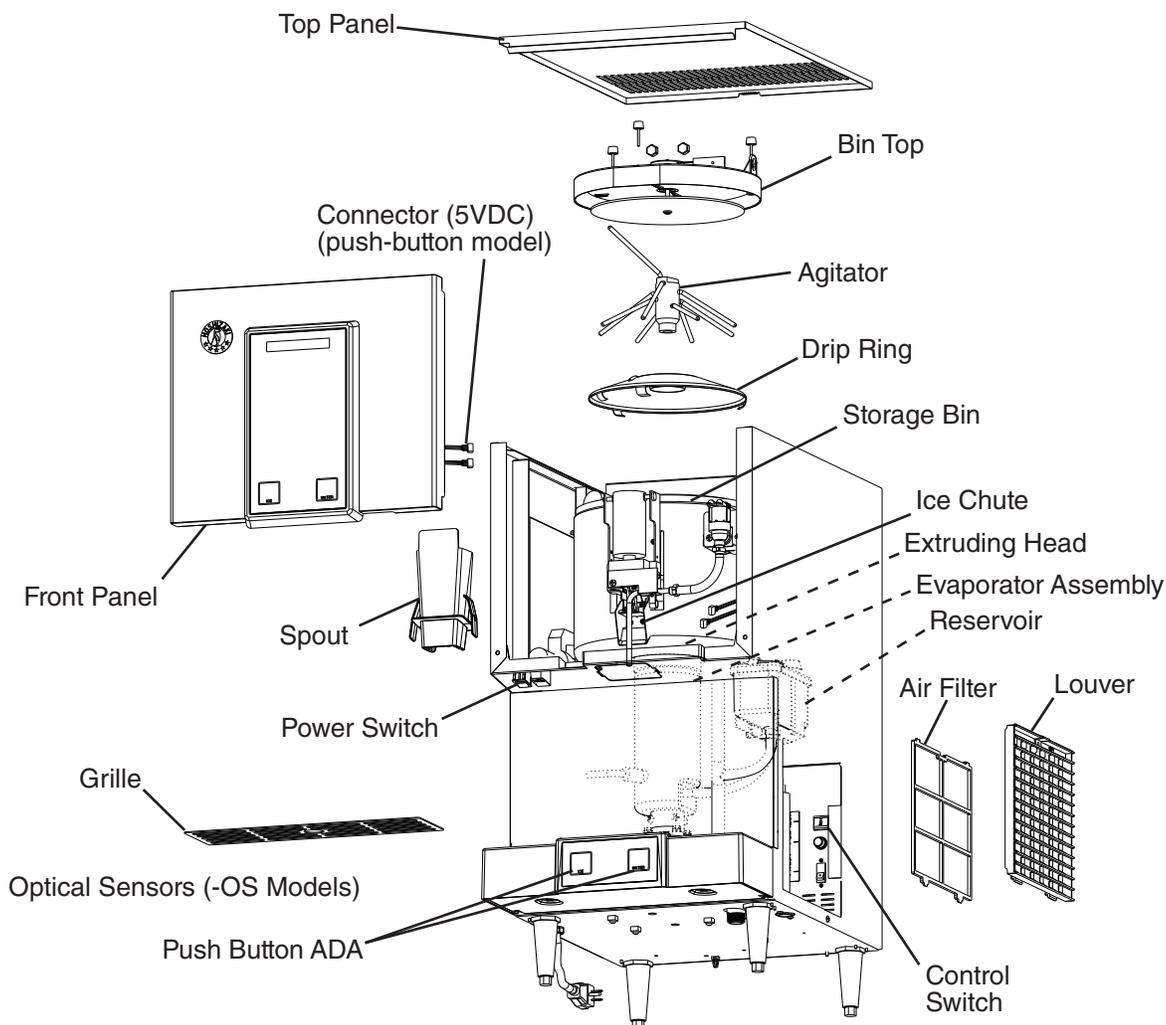

Fig. 6
- 3) Move the power switch to the "OFF" position, then remove the louver and air filter. See Fig. 6. Move the control switch to the "DRAIN" position, then move the power switch to the "ON" position. Allow the water system to drain completely (you will see the water draining into the drain pan). Move the control switch to the "OFF" position.
- 3) Move the power switch to the "OFF" position, then remove the louver and air filter. See Fig. 6. Move the control switch to the "DRAIN" position, then move the power switch to the "ON" position. Allow the water system to drain completely (you will see the water draining into the drain pan).